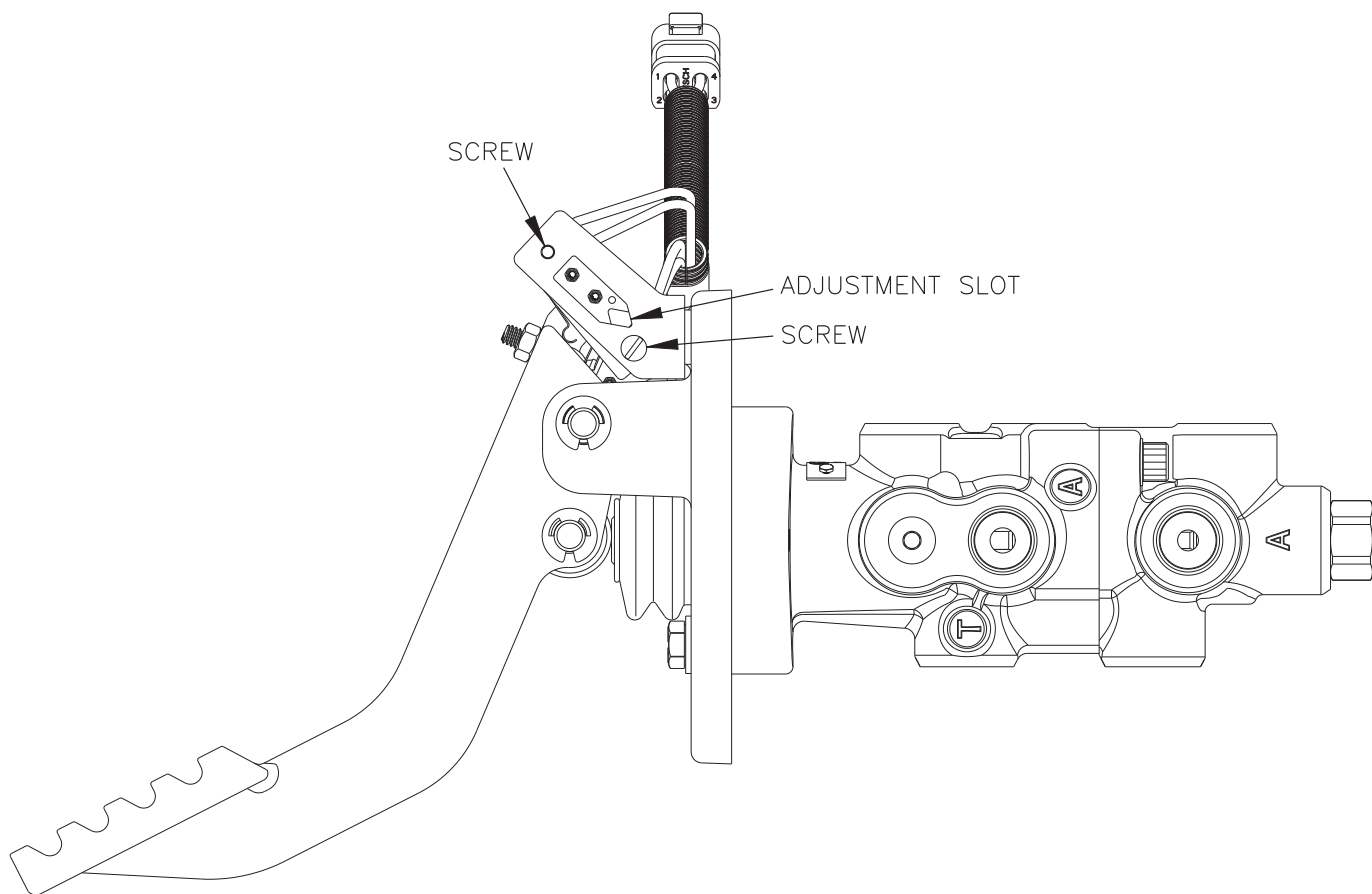

FIGURE 2
1. Install new switch assembly (11) and two new insulators (13) using four new screws (12) and four new nuts (14). Note the position of the switches. Switch "A" has red and black wires. Switch "B" has yellow and blue wires. Apply a small amount of Loctite provided in the kit to the threads of new screws (12). Install four new screws (12) and torque 0.23-0.57 N·m (2-5 lb·in). Then install four nuts (14) and torque 0.23-0.57 N·m (25 lb·in) while holding screws (12) from turning.
2. Install bracket (10) on switch assembly (11).
3. Attach bracket (10) and washer (7) to base assembly (4) using cap screw (9) and nut (8). Apply a small amount of Loctite provided in the kit to the threads of cap screw (9). Install cap screw (9) in base assembly (4) to the depth recorded during disassembly. While holding cap screw (9) from turning, torque nut (8) 13.6-19.0 N·m (10-14 lb·ft).
4. Install new plunger (16) in pedal assembly (3) and screw it in as far as it will go until it can be adjusted.
5. Apply heavy duty grease to spacers (5 & 6) to hold them in position against pedal assembly (3). Position pedal assembly (3)/spacers (5 & 6) on base assembly (4) while carefully applying pressure to the pivot point/cam area of pedal assembly (3) to allow sufficient clearance for pin (2) to be reinstall-ed. Reinstall pin (2) and attach e-ring (1).
6. Check to be sure the dimension in Figure 2 is being held. Adjust cap screw (9) as necessary to obtain this dimension and re-torque nut (8) 13.6-19.0 N·m (10-14 lb·ft).
1. Switch "B" may not require adjustment if the snap switch clicks when the pedal is fully released. If the snap switch does not click when the pedal is fully released, loosen the screws shown in Figure 2. Install a flat head screw driver in the adjustment slot shown and turn the screw driver to either open or close the adjustment slot until the snap switch clicks when the pedal is fully depressed. Re-torque the screws to 1.13-1.70 N·m (10-15 lb·in).